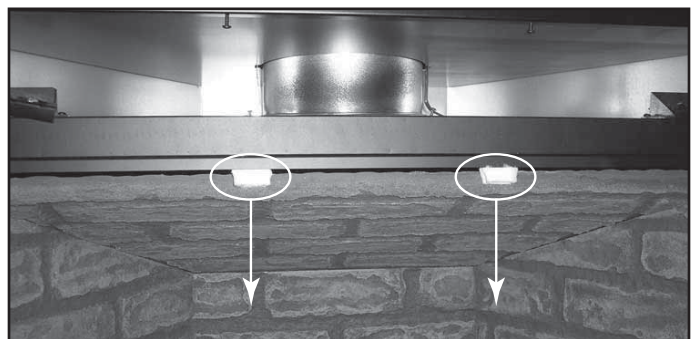

Figure 15.5 Remove Lytherm Pieces
- Remove packing material (Figure 15.5).
- Place a small amount of 1/2 in. diameter pieces (dime-size) rockwool on the burner pan so that the rockwool touches, but does not cover, the holes in the burner pan (refer to Figure 15.5). This will provide the “glowing embers” look.